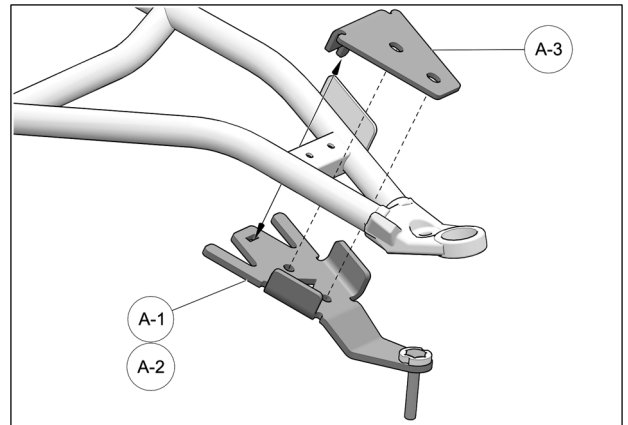

Fig. 15
5. Position bottom part of anchor bracket (A1-A2) under lower suspension arm. Position top part (A3) over suspension arm and insert tenon in mortise cut in bottom part. Fig. 15